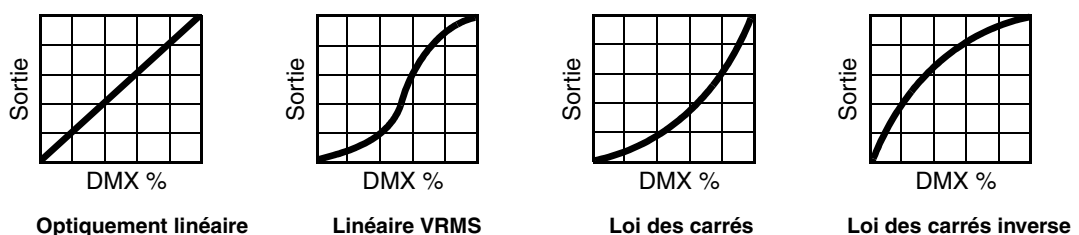

Figure 6: Courbes de gradation
- **DIMMING CURVE** fournit 4 courbes de gradation (voir Figure 6):